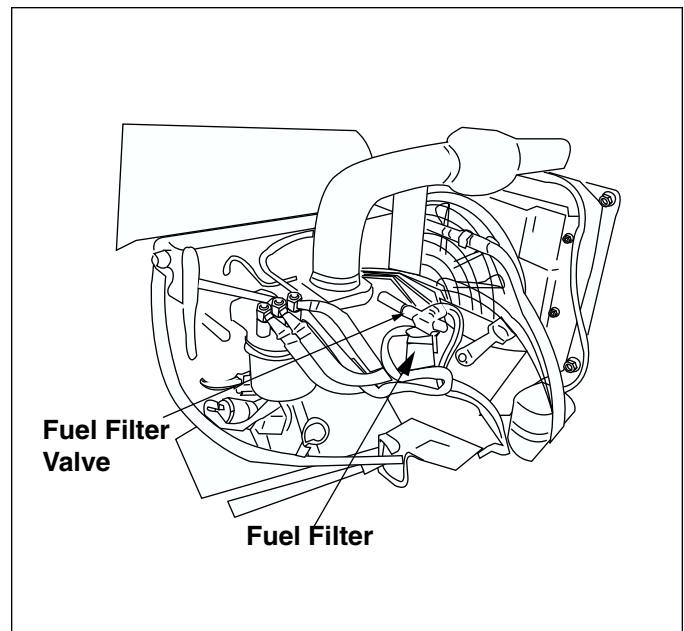

Figure 4-7. Fuel Filter
Unscrew the clear plastic housing (Figure 4-7) to change the filter element and clean dirt from the housing. Clean around the filter housing. Put oil on the seal of the new filter element. Install the fuel filter and hand tighten.
1. Turn the fuel filter valve (Figure 4-7) to the open position (vertical).